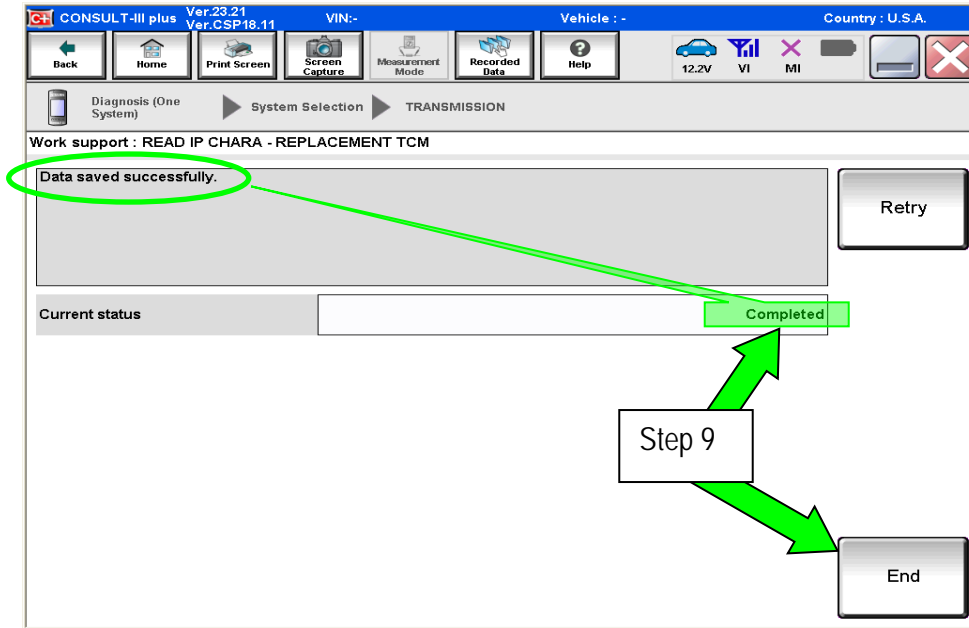

Figure A4
8. When the calibration data has been saved to the CONSULT PC, the message “Data saved successfully” will be displayed and **Current status** will indicate **Completed** (see Figure A4).